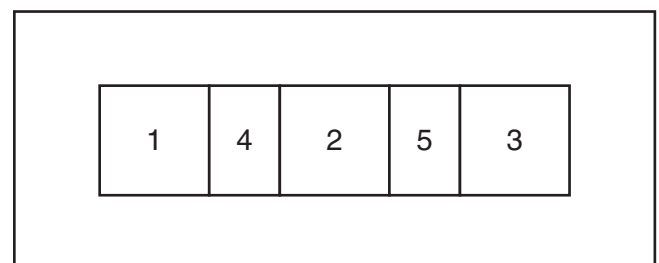

Figure 30. Example of a mortise cutting sequence.
8. Turn the machine **OFF** and repeat **Steps 6–7** in the pattern illustrated in **Figure 30** until the mortise is complete.